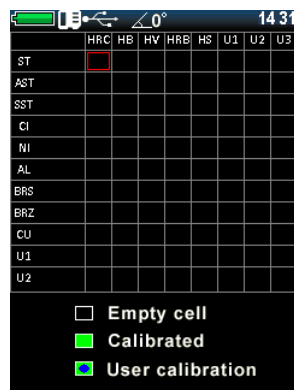

Figure 2.28 - Selecting a cell for calibration
2. Use the navigation keys to select a cell for calibration, for example, HRC for steel (Figure 2.28).